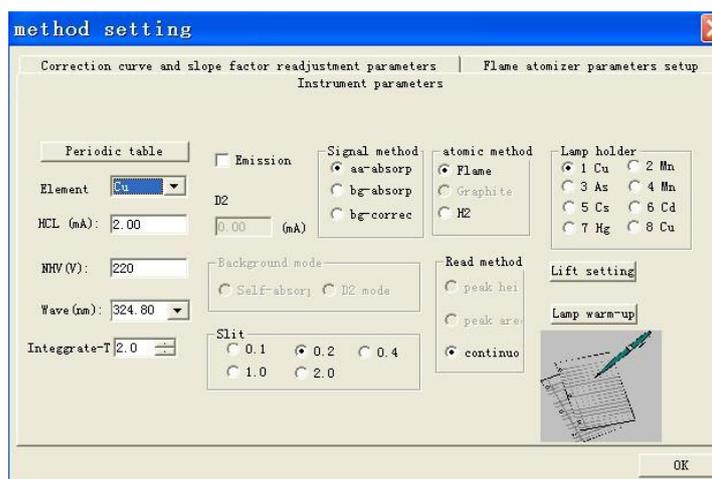

Figure 5-6
3. Enter a proper value in the "Integration time" field and select a proper reading method in the "Instrument parameters" screen, as shown in Figure 5-6.